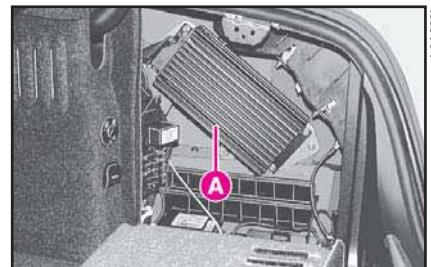

fig. 227
- one high-power hi-fi amplifier, five channels - four 25 W and one 100 W - class D, with analogue equaliser for signal amplitude and phase, fitted on the right-hand side of the boot A (fig. 227).